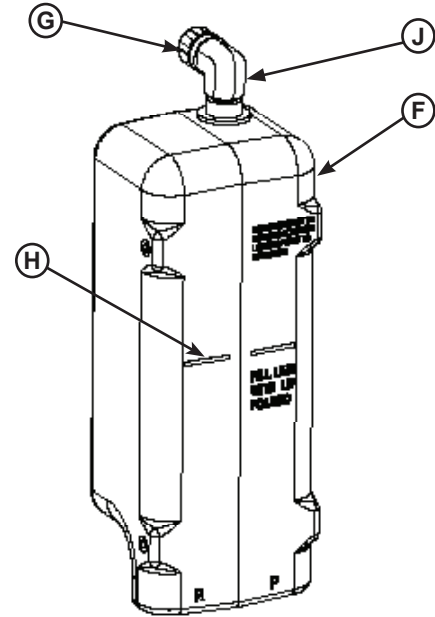

Figure 31
- » Check reservoir fluid level. See **Figure 31** for Self-Contained models, or page 28 for remote-mount powerpacks):
4. Make sure fluid is within 1/2" of fluid fill line marked on reservoir. Excessive fluid above fill line may cause a fluid to leak through the breather plug (G).
5. Remove elbow (J) to add fluid.
7. Install elbow (J) and rotate to position shown in **Figure 31**.